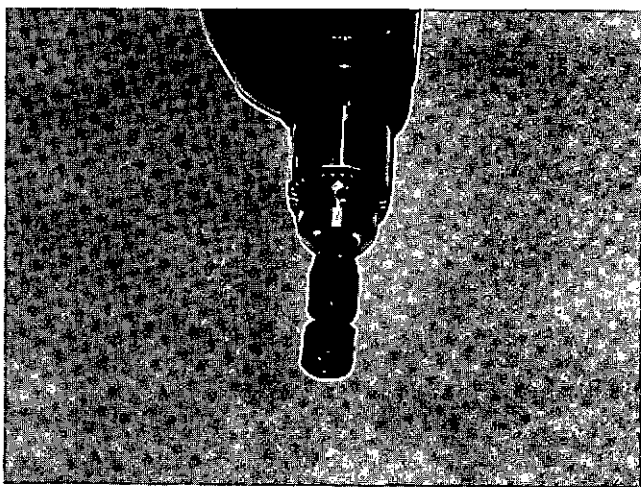

Fig. 1-1-42, V40179. Hand drill driver
16. Check the 1/2 inch drive flex adapter (Detail 48) in a 1/2 inch or 3/4 inch heavy duty (10 amperes or more) hand drill. Fig. 1-1-42.